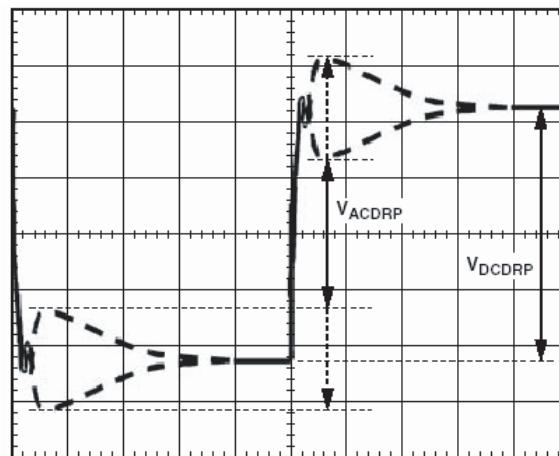
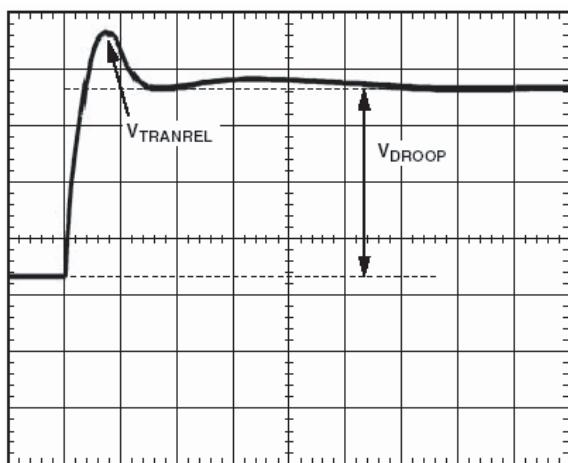

Figure 9. Transient Setting Waveform
Figure 10. Transient Setting Waveform
19. With dynamic load still set at maximum step size, expand the scope time scale to see 2 μ s/div to 5 μ s/div. You will see a waveform that may have two overshoots and one minor undershoot (see Figure 9). Here, V_{DROOP} is the final desired value.
21. For load release (see Figure 10), if V_{TRANREL} is larger than V_{TRAN1} (see Figure 9), you do not have enough output capacitance. You will either need more capacitance or need to make the inductor values smaller (if you change inductors, you need to start the design over using the spreadsheet and this tuning procedure).